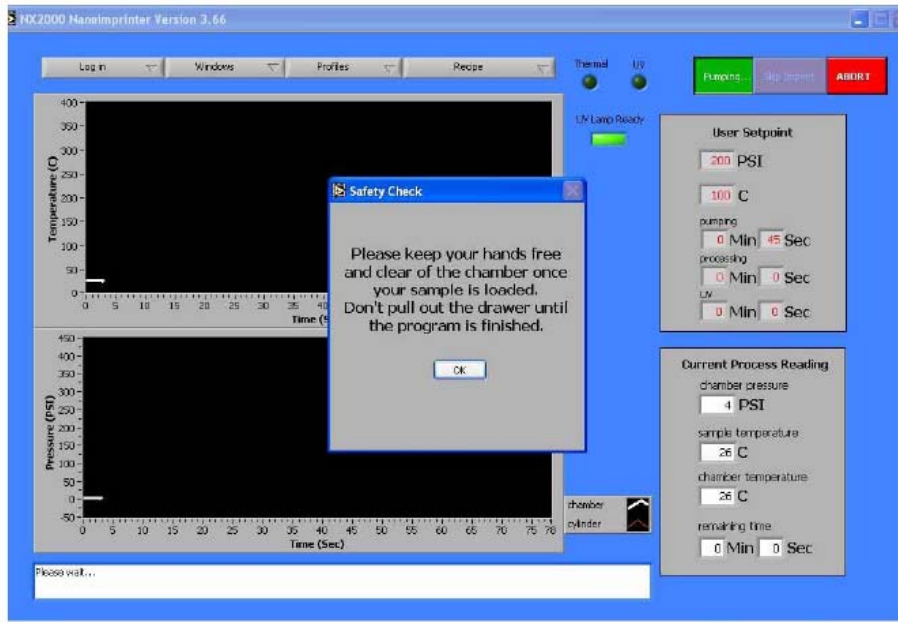
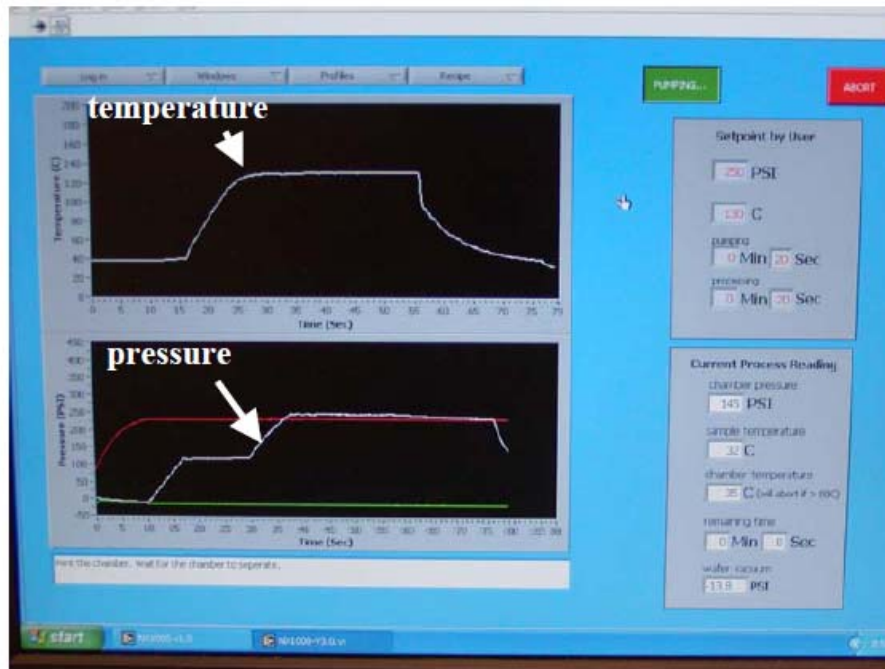

Figure 4-11 Pop-up confirmation menu
Figure 4-12 Real-time monitoring of temperature and pressure during imprinting.
- k Click “OK” button in the pop-up menu (figure 4-11), the chamber closes automatically and the vacuum pump starts to pump the chamber. **WARNING!!!** From this point on DO NOT pull out the drawer until the program is finished and the chamber has stopped moving. When user-set pumping time expires, the imprinting process begins automatically. During the process, temperature and pressure inside the chamber are monitored in real-time and displayed on the monitor (figure 4-12).